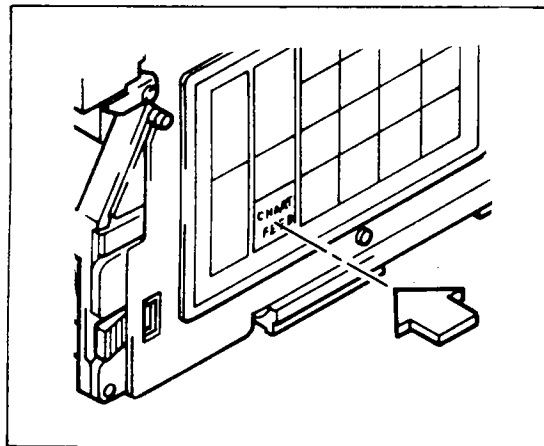

Figure 5-8.
- (10) Press the Chart Feed key, and confirm that the chart is fed continuously*. (See Figure 5-8.)
* If the chart cannot be fed continuously, repeat the procedure from step (3).